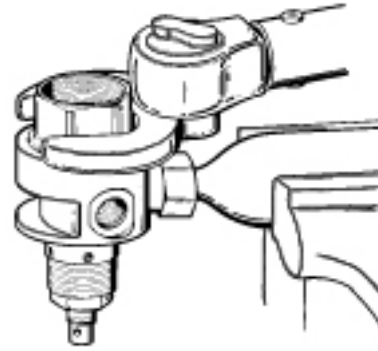

Figure 30 - Torque measurement of spring retainer
15. Re-secure the first stage inside the vise with the spring retainer facing straight up. Apply a torque wrench with 1" crow-foot or socket to tighten the spring retainer to a torque measurement of **25 ± 2 ft-lbs.** (See Figure 30).